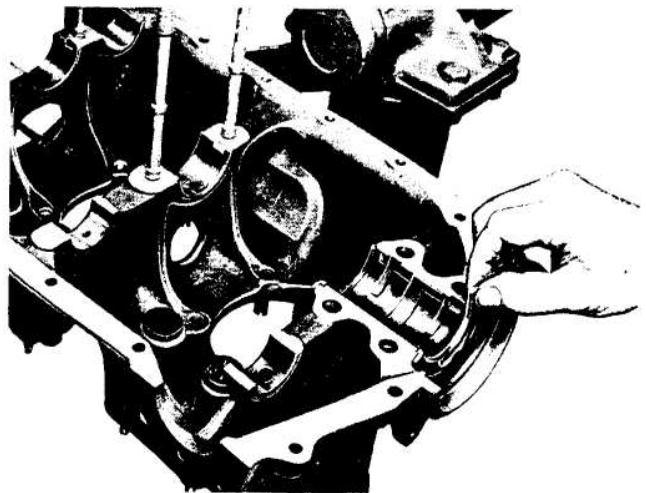

Figure 31. Installing Crankshaft Bearing and Old Type Thrust Washer.
- h. If the crankcase is the older type, equipped with dowels in the front main bearing boss to retain the thrust washers, obtain new washers of the proper type, and spread a very thin film of soft grease on their shouldered sides, so that they will adhere to the ends of the boss. Place each washer in position, as shown in Figure 31. Four identical notched washers are required.